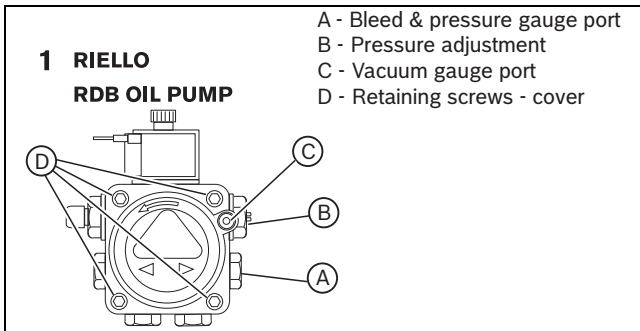
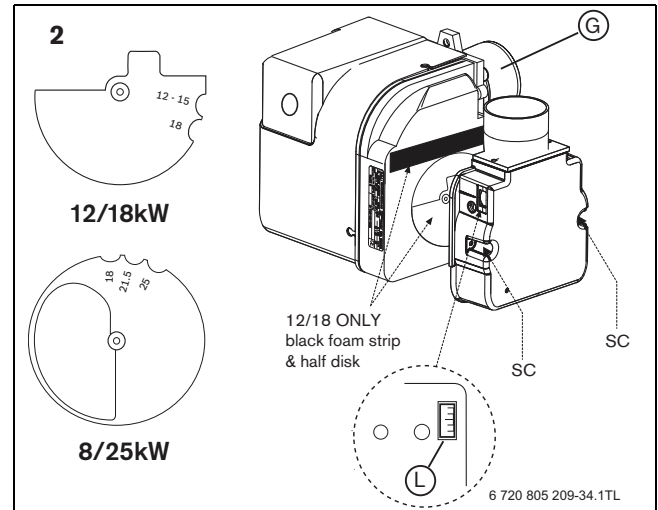

Fig. 46
Fig. 48
Adjust position of the air damper disc to suit the burner output (→ table 8 on page 30), located as shown in figure 48. Access is by loosening the two star screws (SC) to release the air inlet manifold.
- ▶ Adjust the air shutter [L] (see figure 48) and pump pressure [B] as shown in figure 46. The burner should ignite following a pre-ignition period of approximately 15 seconds.